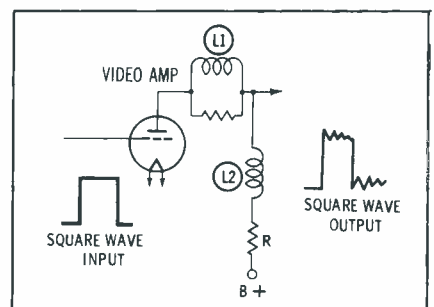

Fig. 6. Excessive high-frequency response causes distortion known as ringing.
2. Excessive high-frequency response in another of the peaking-coil circuits, which causes ringing and produces a jagged trace (Fig. 6).
In cases where ringing is not traceable to peaking-coil trouble, we can sometimes remedy the condition by increasing the value of the plate-load resistor (R in Fig. 6). The ringing can usually be minimized but not completely eliminated. Increasing the load-resistor value past a certain point will have little effect on ringing, but it will have an objectionable effect on corner-rounding. Hence, choosing the right value must be somewhat of a compromise.